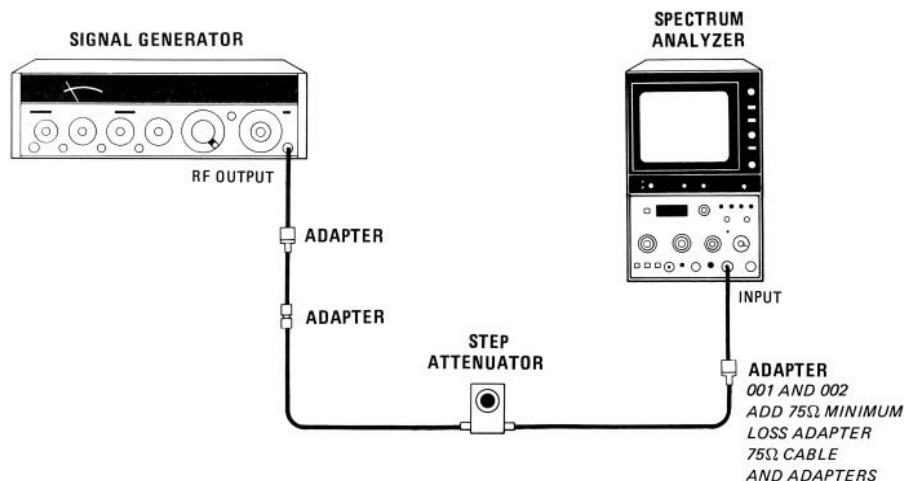

FIGURE 4-18. REFERENCE LEVEL ACCURACY TEST SETUP
2. Connect equipment in Figure 4-18 with step attenuator set at 0 dB. Locate signal on CRT.